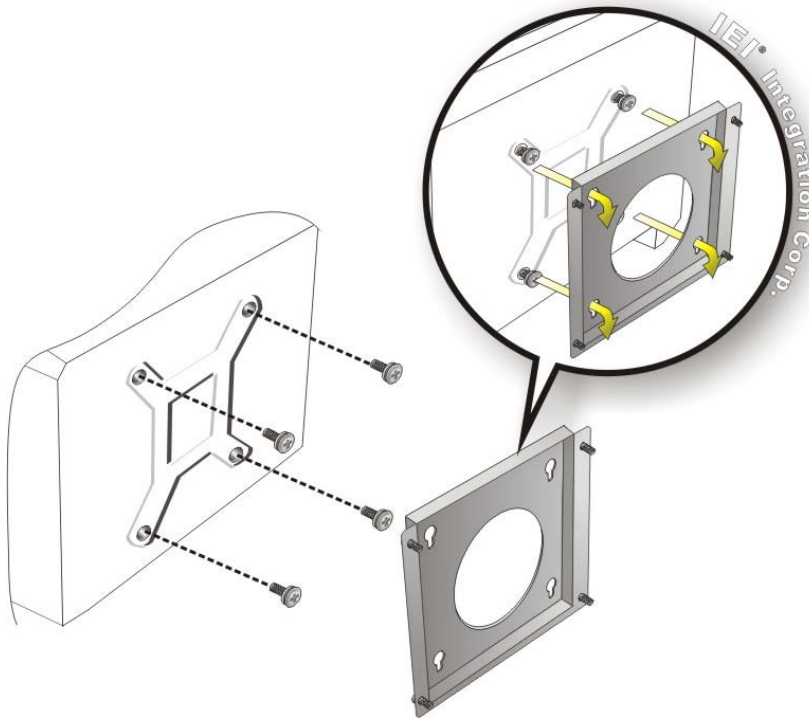

Figure 3-16: Mount the Chassis
- Step 6:** Insert the four monitor mounting screws provided in the wall mounting kit into the four screw holes on the rear panel of the monitor and tighten until the screw shank is secured against the rear panel (**Figure 3-16**).
- Step 8:** Carefully insert the screws through the holes and gently pull the monitor downwards until the monitor rests securely in the slotted holes (**Figure 3-16**). Ensure that all four of the mounting screws fit snugly into their respective slotted holes.